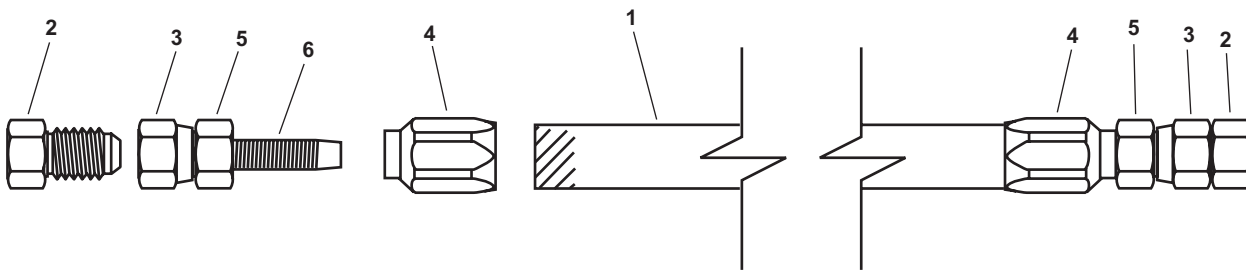

Figure 1. High Pressure Hose
5. Use the two wrench method to disconnect the faulty high pressure hose (figure 1, item 1) by placing the stationary wrench on the male fitting (figure 1, item 2), and rotating the female fitting (figure 1, item 3).
3. Disassemble the old hose by holding the sockets (figure 1, item 4) stationary and rotating the female fittings (figure 1, item 5) counterclockwise until removed.
4. Separate the old high pressure hose (figure 1, item 1) from the sockets (figure 1, item 4) and discard the faulty section of high pressure hose.
5. Inspect the female fittings (figure 1, item 3), male fittings (figure 1, item 2), and the sockets (figure 1, item 4) for excessive wear and damage. Replace any damaged parts.
6. Lubricate the ends of the replacement high pressure hose (figure 1, item 1) with silicone compound.
7. Install the ends of the high pressure hose (figure 1, item 1) in the sockets (figure 1, item 4) by holding the sockets stationary, and rotating the high pressure hose counterclockwise until it bottoms in the socket.
8. Rotate the high pressure hose (figure 1, item 1) clockwise in the socket (figure 1, item 4) $\frac{1}{2}$ turn, and ensure that the hose is not bottomed in the socket.
9. Lubricate the threaded nipple (figure 1, item 6) on each of the female fittings (figure 1, item 5) with silicone compound.
10. Install the female fittings (figure 1, item 5) in the sockets (figure 1, item 4) by holding the sockets stationary and rotating the female fittings clockwise until snug. Back off $\frac{1}{8}$ of a turn.
1. Install the high pressure hose (figure 1, item 1) using the two wrench method by holding the male fitting (figure 1, item 2) stationary, and rotating the female fitting (figure 1, item 3) until tight.